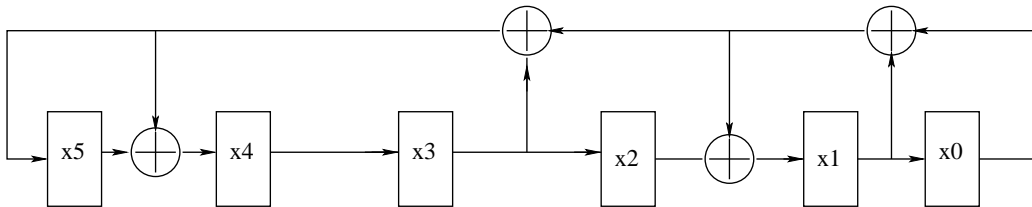

Figure 7: A mixed mode linear feedback shift register
- (a) (4 points) Realization of a 6-bit mixed mode (internal/external EOR) Linear Feedback Shift Register (LFSR) is given in the Figure 7 below along with the notation used to label the flip-flops.